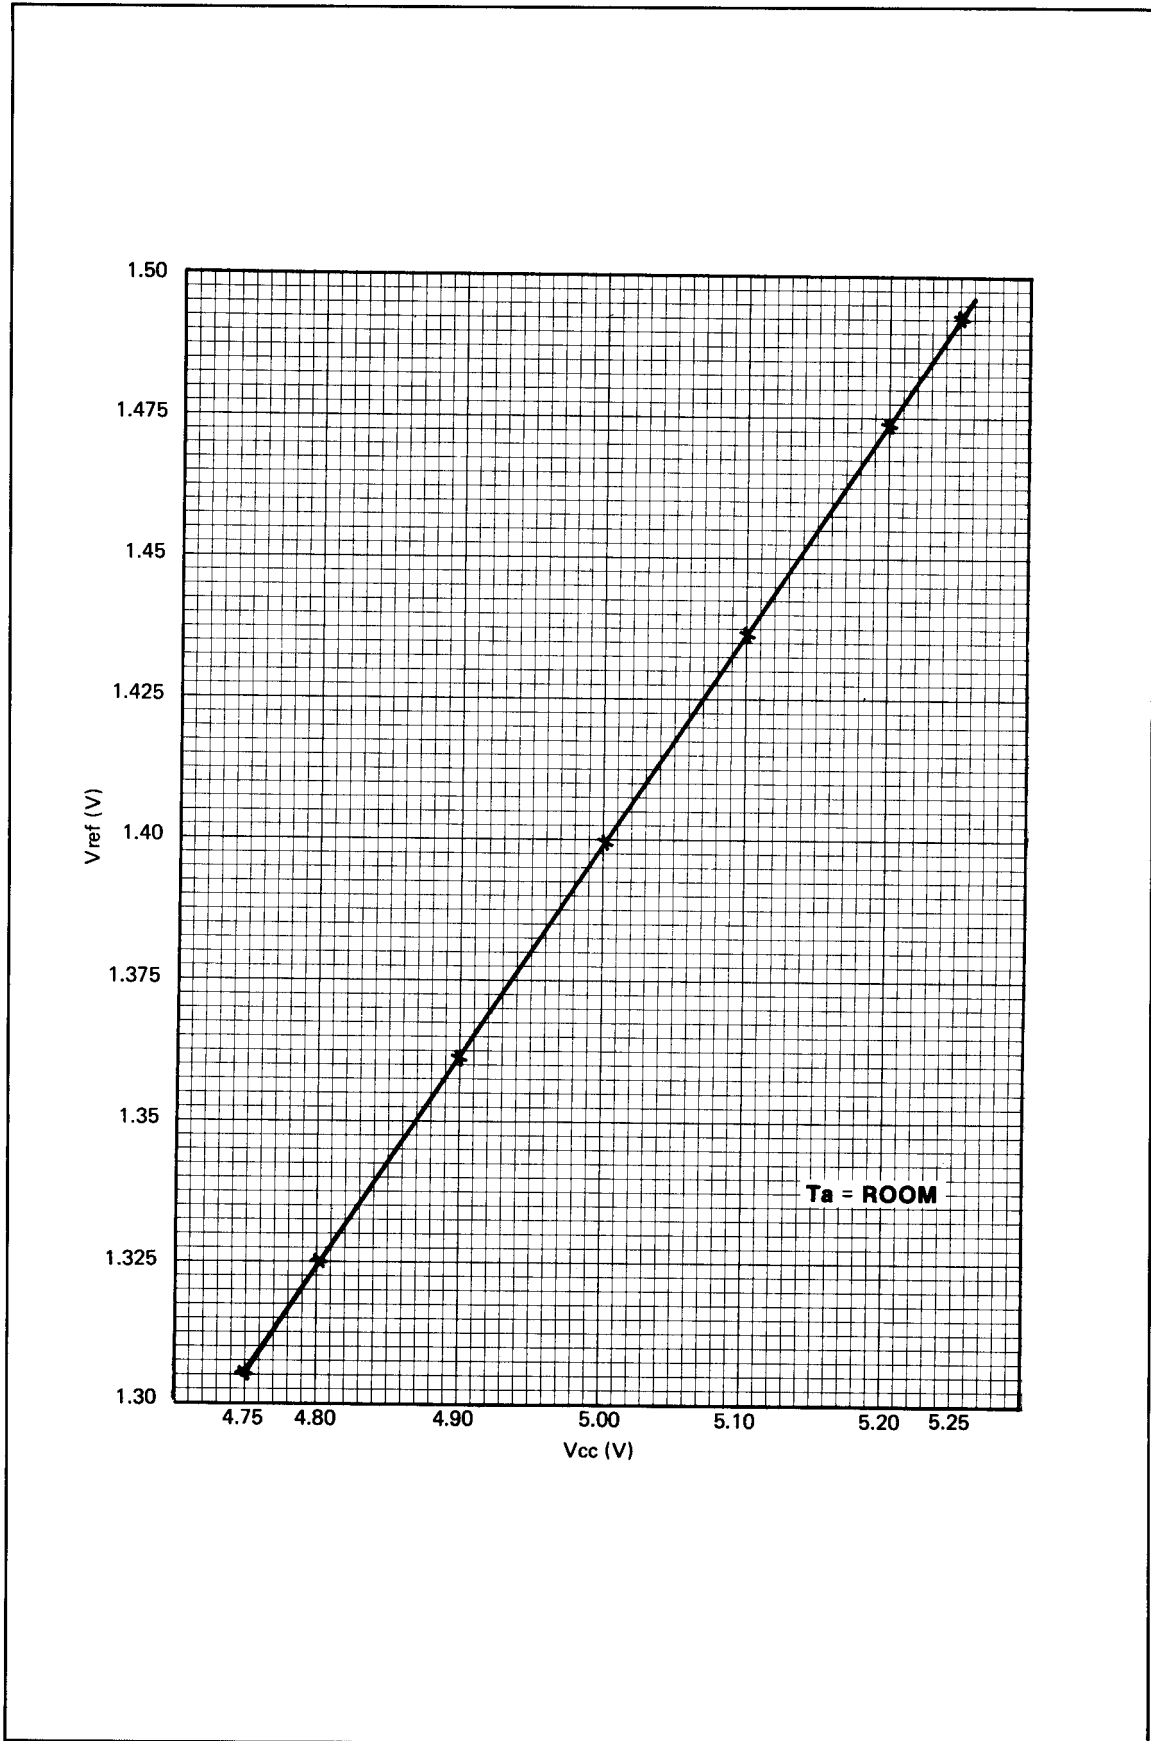

Figure 5-1. Data Probe V_{cc}—V_{ref} Graph
- c. Connect the positive test lead to U1(5). Compare this voltage with the V_{ref} voltage corresponding to the V_{CC} (step b) on *Figure 5-1*.
Figure 5-1 is a graph relating the U1 pin 5 voltage to U1 pin 7 voltage.